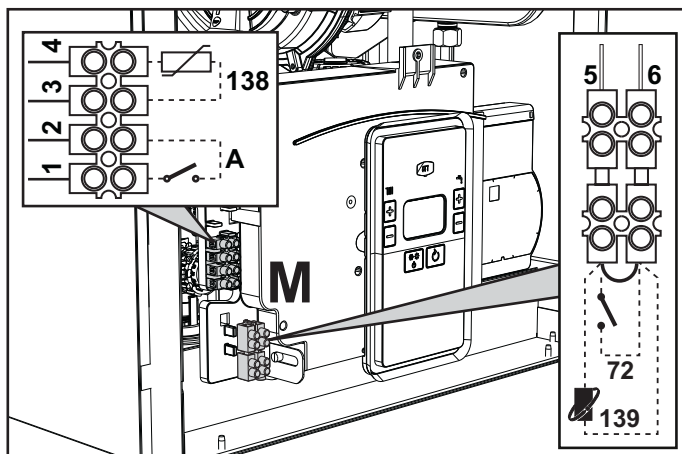
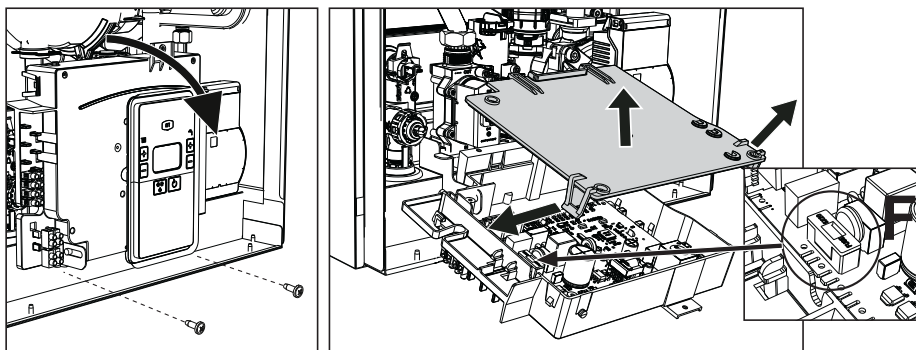

fig. 18
fig. 19
Remove the front panel (*** 'Opening the front panel' on page 302 ***) to access the terminal block (M) and fuse (F) by proceeding as follows (fig. 18 and fig. 19). **The terminals indicated in fig. 18 must be with voltage-free contacts (not 230V).** The arrangement of the terminals for the various connections is also given in the wiring diagram in fig. 45.
ON/OFF (A fig. 19) configuration